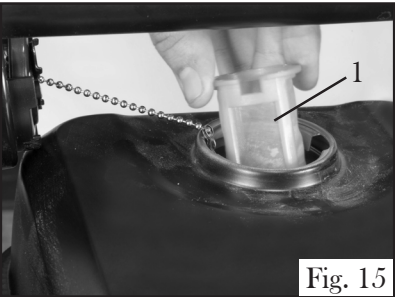

Fig. 15
8. Remove the fuel filter cup located inside (Fig. 15 - 1).